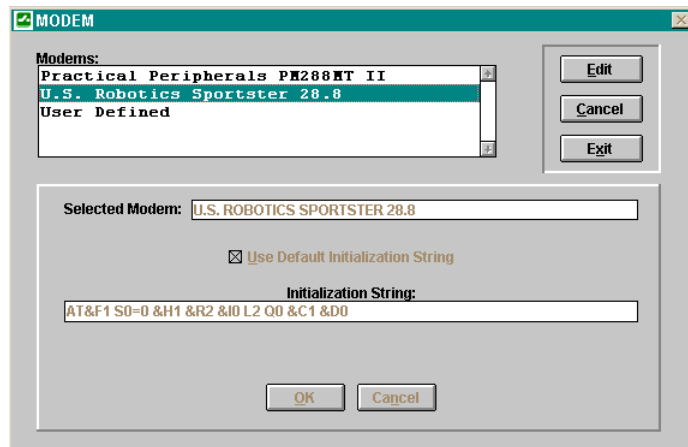

Figure 7 Modem Window
2. Click the **Select Modem** button to display the MODEM window (Figure 7 on page 21). Select the type of remote modem and click the OK button to close the MODEM window.
Open the **System** menu, select **Modem** and then **Configure Remote** to display the MODEM window (Figure 7).
3. The MODEM window (see Figure 7 on page 21) will now be displayed. Select the remote modem from the list shown and click the **Exit** button. The appropriate initialization string will now be sent to the remote modem where it will be stored in nonvolatile memory.